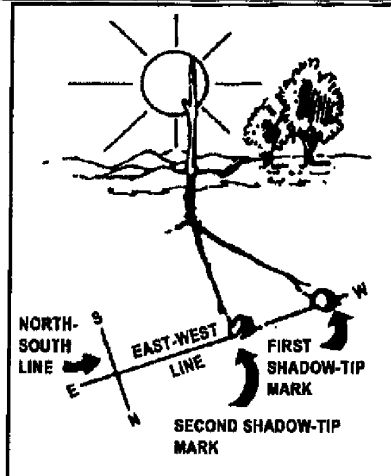

Figure C-43. North-south line
- (1) The sun rises in the east and sets in the west.
- (2) The first shadow tip you mark is always west and the second mark is always east.
- (3) The shadow tip moves in the opposite direction.
e. Determine north and south. Draw a line at a right angle to the east-west line at any point (figure C-43). This is the north-south line.